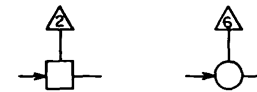

Figure 4. Test Point Symbols
Figure 3 shows an example of an inverter network. Because multiple outputs are identical, Figure 4 shows only one arrow in cases where an inverter (A) serves as the single input to several succeeding inverters. In more complex inverter networks, multiple arrows are used (B to C and D because B is not the only input to C or D).
A test point performs no logic function. Logic diagrams show the test point as a triangle (see Figure 4). Test points are numbered from 1 to 6.